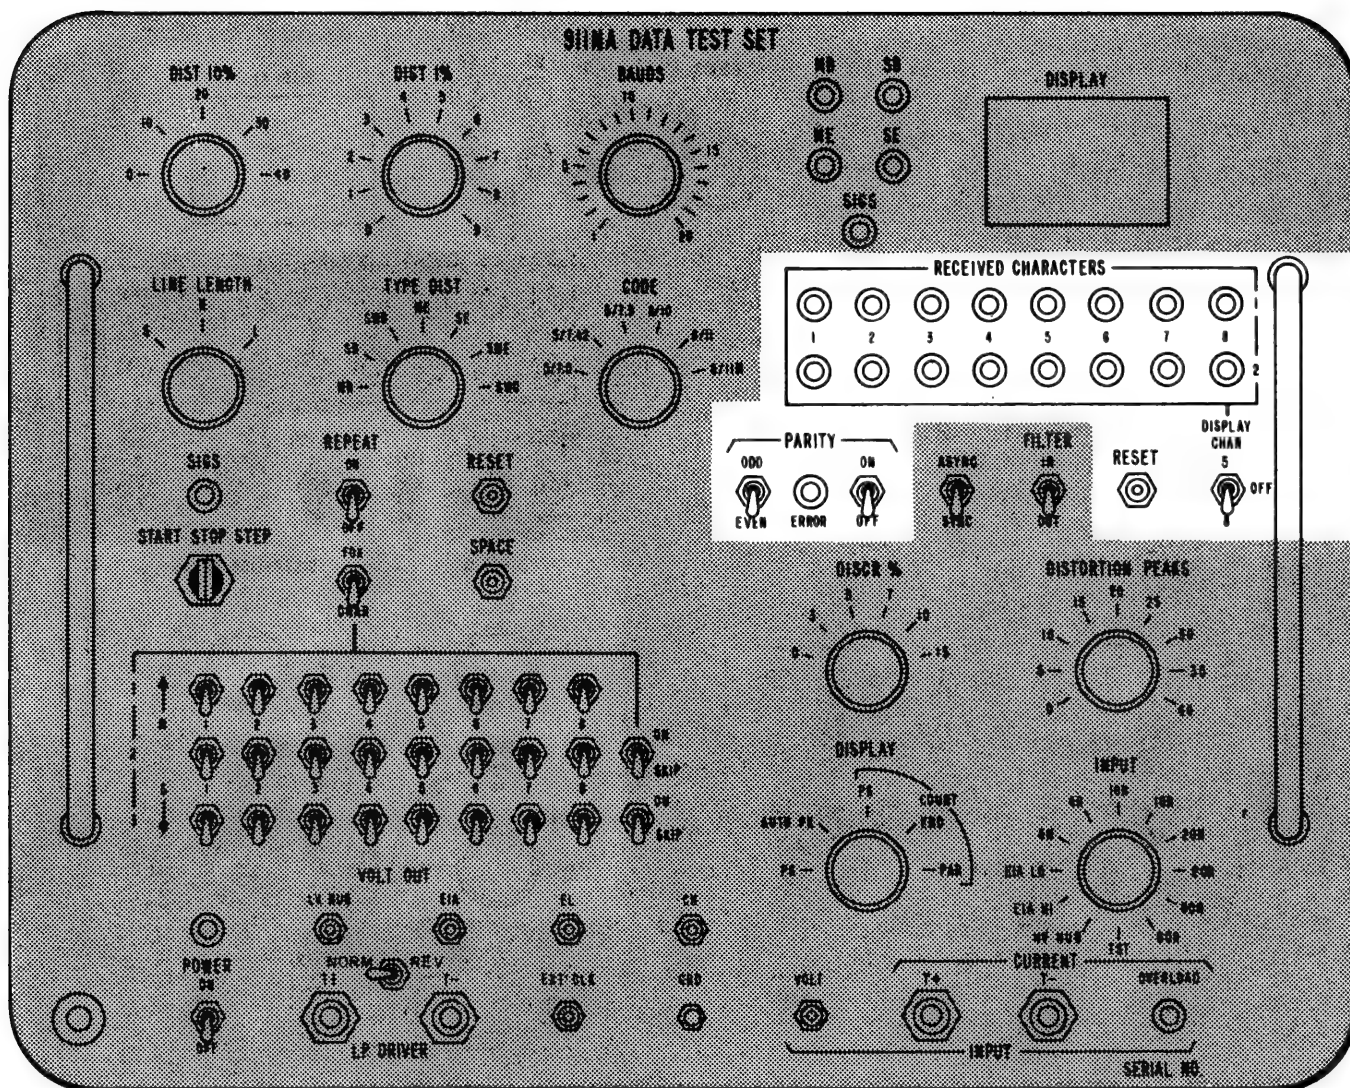

Fig. 17—Received Characters and Parity Displays
3.38 Figure 17 shows the received characters and the parity error displays. Odd or even parity errors can be recognized by the DMS. When a parity error is received by the DMS while the